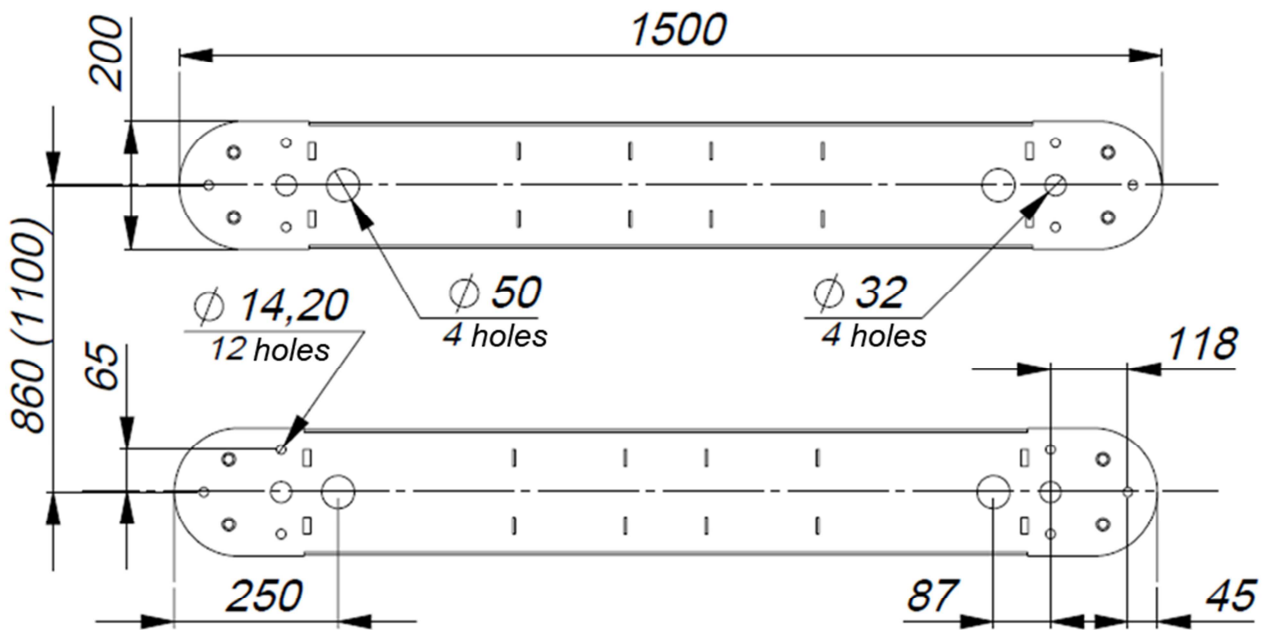

Fig. 5. Linkage dimension with 660 (900) mm passage width
4.2.4. Cable routing is carried out through holes of 50 mm diameter (Fig. 5) in the lower plate of side units.